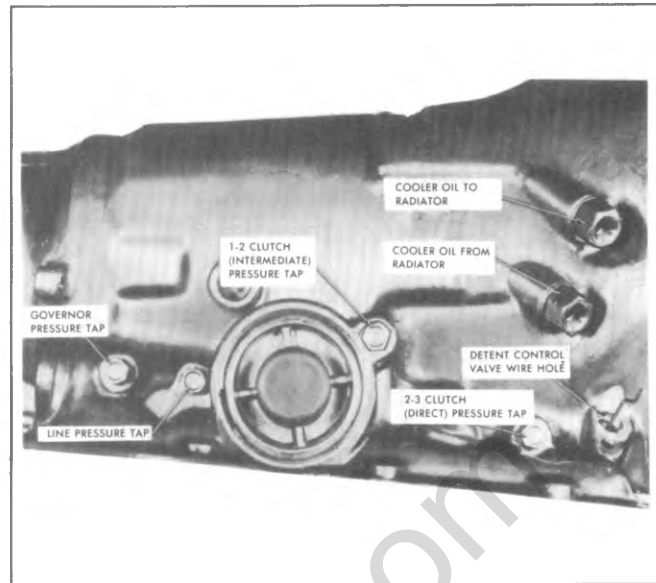

Fig. 7A-10--Pressure Tap Locations
1. Install line Pressure Gage, to tap location shown in Fig. 7A-10.
Refer to Fig. 7A-12, Diagnosis Chart, to determine a possible cause of a transmission problem.